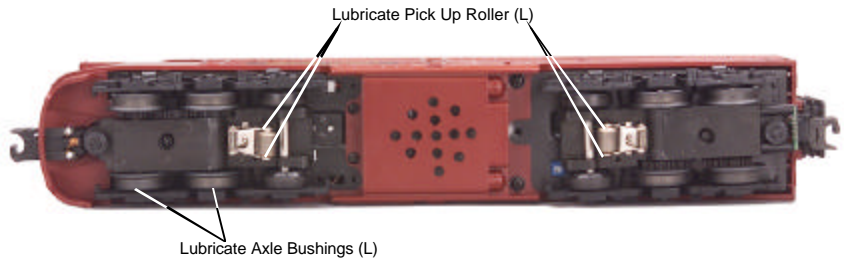
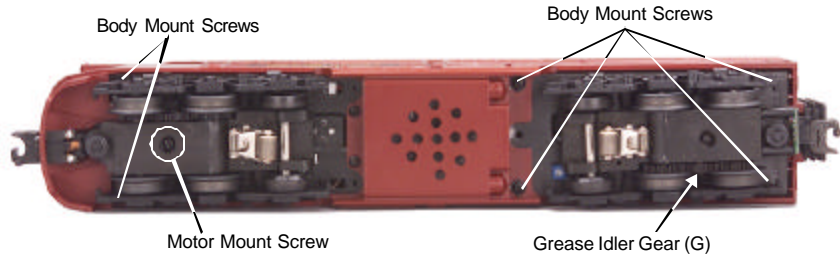

Figure 2. Lubrication Points on the Engine
Figure 3. Body Mount Screws and Greasing Points.
Although the engine was lubricated at the factory, it is important that you lubricate the chassis before operation. Lightly grease the outside idler and drive gears (marked “G” in Fig. 3 on page 11) to prevent them from squeaking. Use light household oil and follow the lubrication points marked “L” in Fig. 2 on page 10. Do not over-oil. Use only a drop or two on each pivot point.
You should regularly oil the engine and pickup rollers to prevent them from squeaking. Use light household oil and follow the lubrication points marked “L” in Fig. 2. Do not over oil. Use only a drop or two on each pivot point.
1. Remove the six Phillips screws from the chassis, as seen in Figure 3, then lift the body away from the chassis.
2. Remove the truck blocks from the chassis by unscrewing the large Phillips motor mount screw on the bottom of each truck block, as shown in Figure 3.
It is also a good idea to lubricate the outside truck block idler and drive gears with grease occasionally. Add grease to the points marked with “G” in Figure 3